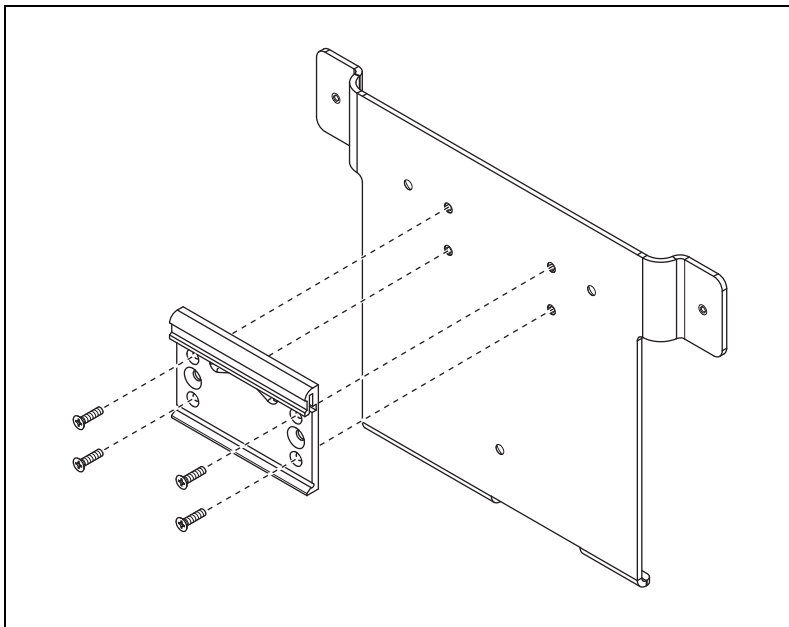

Figure 1-4. Attaching the DIN Rail Clip to the Backpanel Wall Mount
1. Fasten the DIN rail clip to the back of the backpanel wall mount using a #1 Phillips screwdriver and four machine screws (part number 740981-01), included in the kit as shown in Figure 1-4. Tighten the screws to a torque of $0.4 \text{ N} \cdot \text{m}$ ($3.6 \text{ lb} \cdot \text{in.}$).